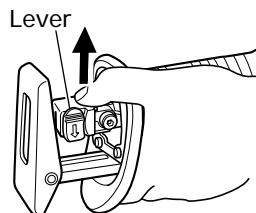

Fig. 9
- (4) When you release the lever, the spring force will return the lever to the correct position automatically. (Fig. 9)